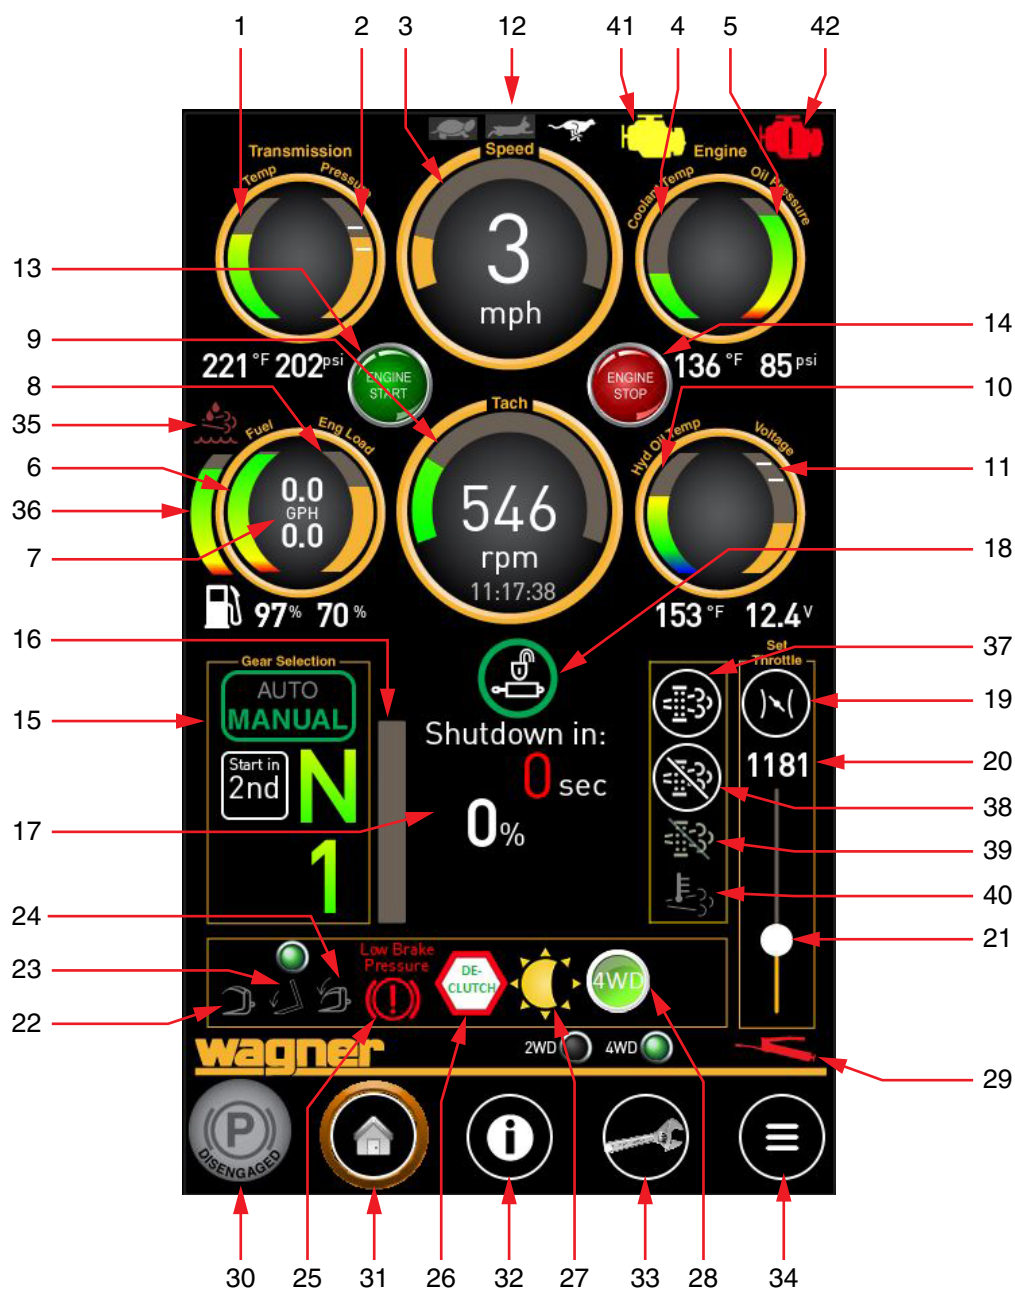

Figure 2-2-2 Home Screen, Smart Screen Operator Interface
Press the Home button icon (item 31) to access the Home Screen. The home screen contains several gauges and indicators useful to the operator. See Figure 2-2-2.